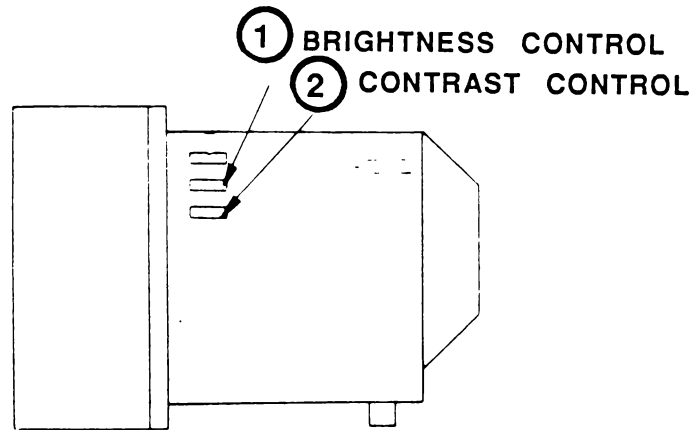

FIGURE 2
- Adjust the monitor's BRIGHTNESS control (Figure 2, #1) to its detent (click) position.
- Adjust the monitor's CONTRAST control (Figure 2, #2) to its maximum clockwise position.